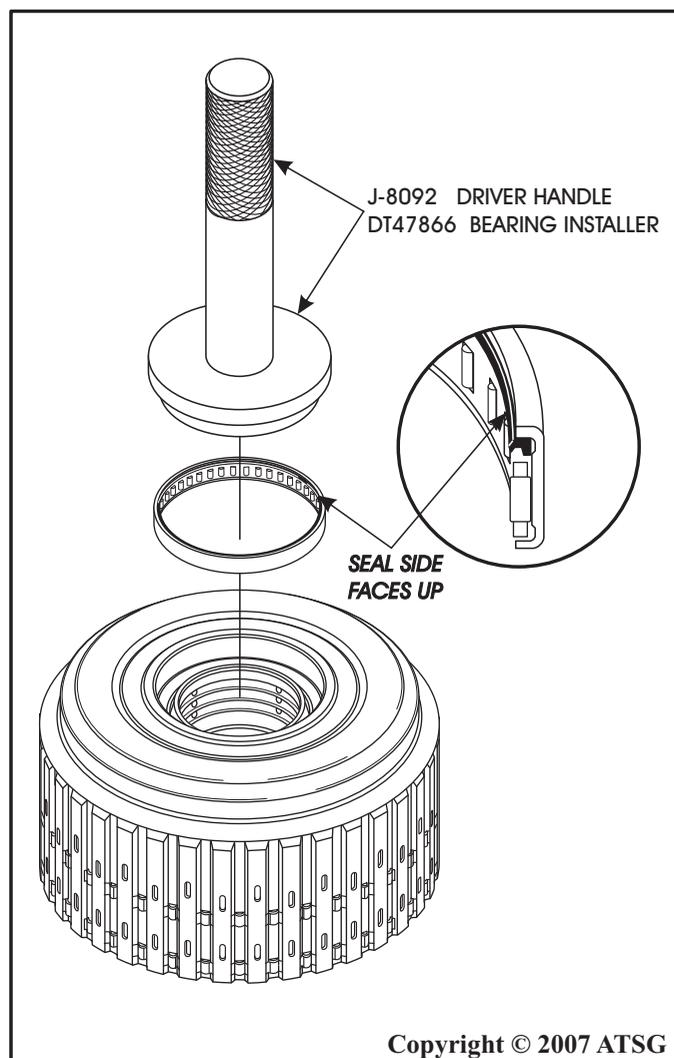

Figure 90
**Note:** *General Motors recommends this bearing be replaced on all rebuilds because of the incorporated lip seal (See Figure 90).*
6. Install a new caged roller bearing, as shown in Figure 90, with seal side facing up.